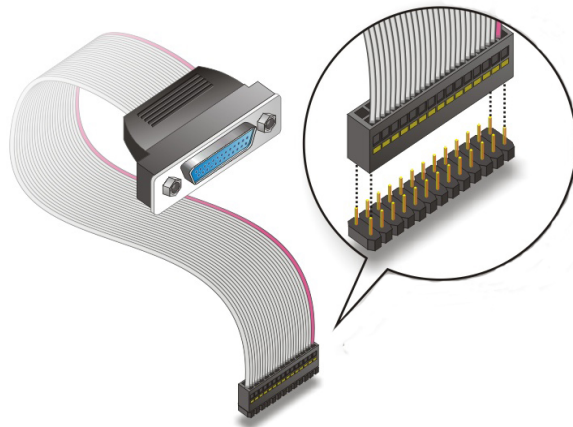

Figure 5-9: LPT Cable Connection
Step 2: Align the connectors. Correctly align pin 1 on the cable connector with pin 1 on the 3308490 LPT box-header connector. See Figure 5-9.
Step 3: Insert the cable connectors Once the cable connector is properly aligned with the 26-pin box-header connector on the 3308490, connect the cable connector to the on-board connector. See **Figure 5-9**.